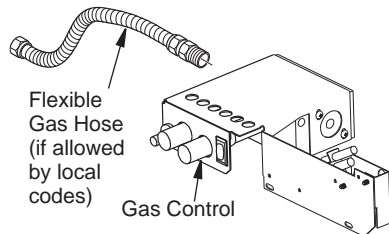

Figure 5 - Attaching Flexible Gas Hose to Heater Gas Regulator
1. Apply pipe joint sealant lightly to male threads of gas fitting (not provided). Connect approved flexible gas hose to inlet side of gas control (see Figure 5). **IMPORTANT:** Hold gas fitting with wrench when connecting flexible gas hose.